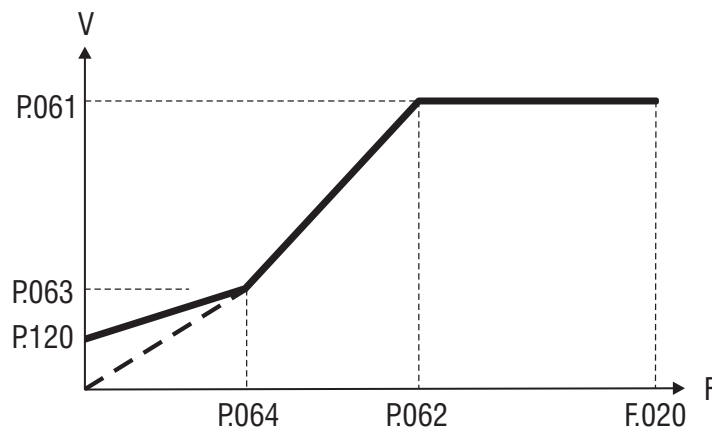

Figure 7.6.8: Custom V/f shape
**P.064** parameter represents the return point of the output voltage, on the linear V/f characteristic (see figure 7.6.8).